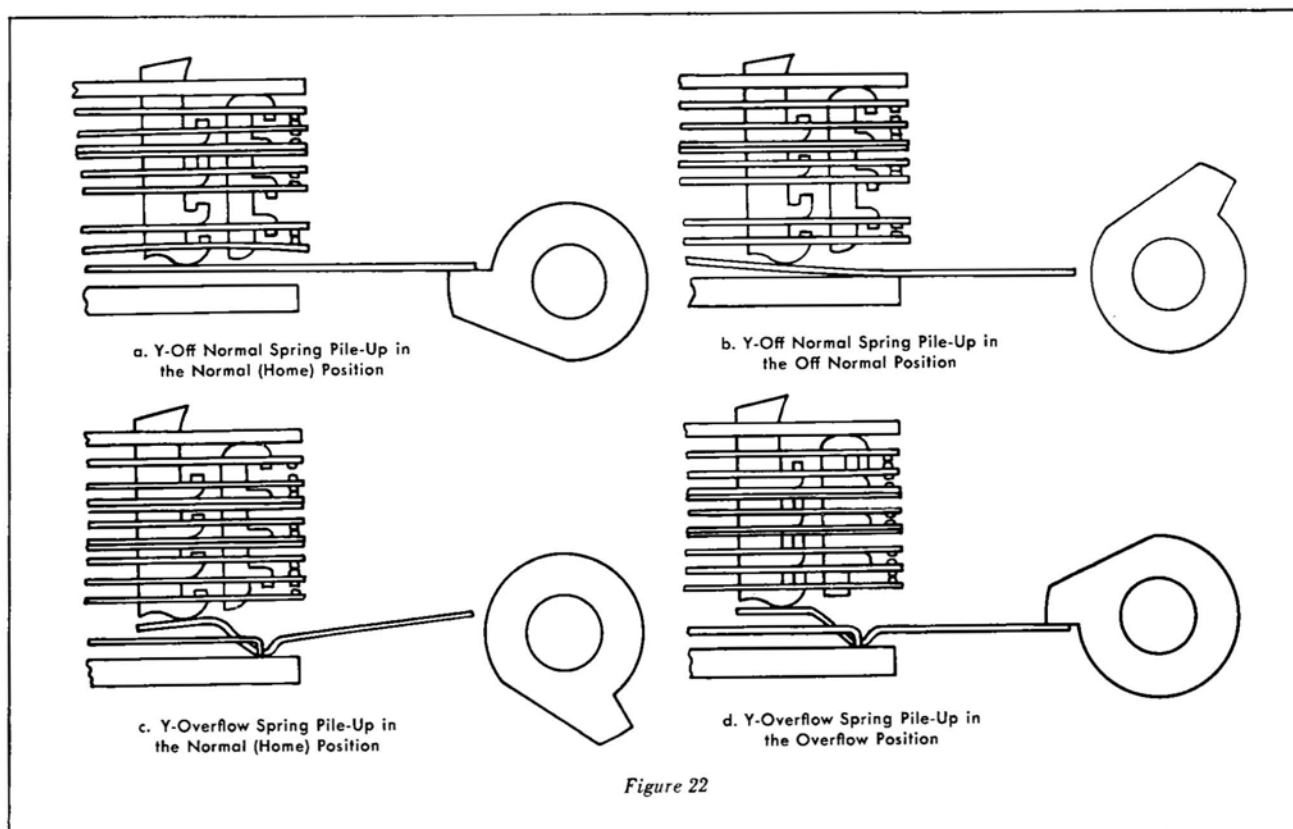

Figure 22
e. Two cams are mounted on the left end of the tubular shaft and are held in place by set screws. These cams operate the Y-Off Normal and the Y-Overflow Spring Pile-Ups. The location of the cams is determined visually to permit operation of their respective pile-ups as follows. (See Figure 22) :